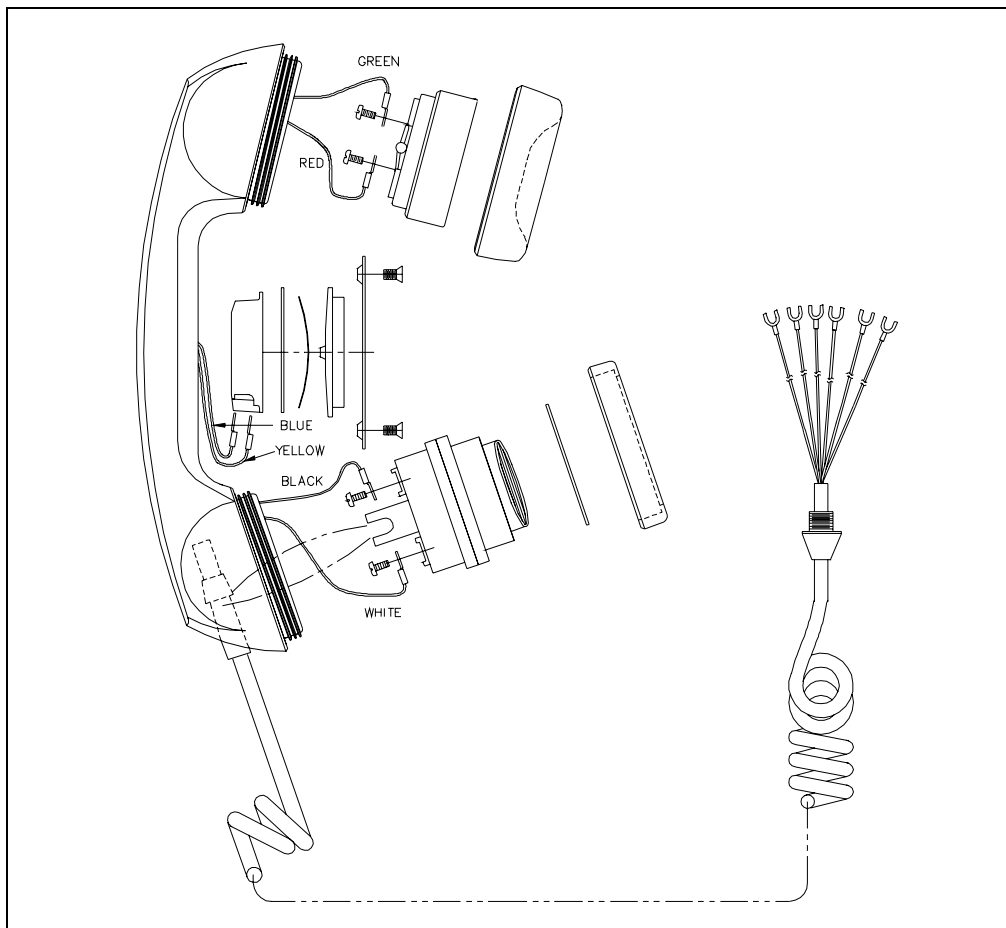

Figure 1. Handset Assembly with Pressbar
3. Connect the black and white wires to the transmitter. Replace the transmitter, transmitter cup, and cap. Refer to Figure 1. Note the notch on the transmitter. When placing the transmitter in the handset, align the notch to catch the bushing on the coil cord to secure the cord firmly in the handset.
5. See Figure 1 above. Place the copper piece with the rubber center in first, with the solid rubber side facing up and the notch in the appropriate slot.
3. **FOR HANDSETS WITH PRESSBAR ONLY:** Feed the yellow and blue wires through the handset to the pressbar area. Secure the wires to the terminals in the plastic cup. Place the plastic cup in the handset. Refer to Figure 1. Place the copper piece with the rubber center in first, with the solid rubber side up. Install the curved spring. Place the plastic pressbar in with the GTC logo side up. Place the metal bracket on top. Tighten the screws.